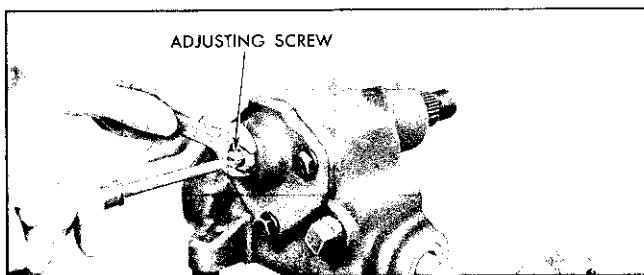

Fig. 9-37 Adjusting Pitman and Ball Nut Backlash
2. Loosen pitman shaft adjusting screw lock nut and back off adjusting screw a few turns (Fig. 9-37).